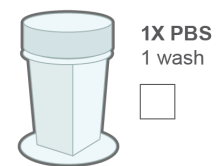

Figure 12: PBS Wash (1 minute)
7. After fiducial incubation, *one slide at a time*, gently tap slides on a clean Kimwipe to remove excess solution and transfer slides to staining jar containing fresh 1X PBS (Figure 12).